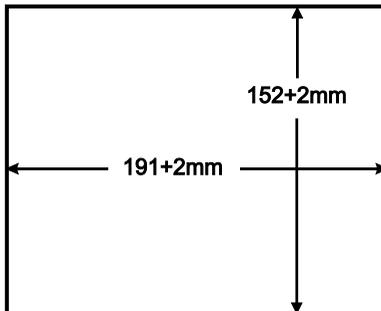

Figure 4: Cut out Dimensions
3. Following the **inside** edge of the template, cut a hole in the table surface with a sabre or keyhole saw according to the dimensions shown in Figure 4 (not to scale).